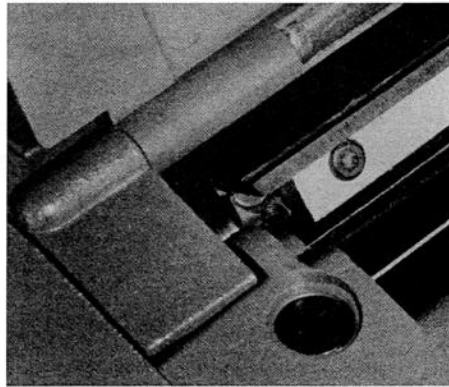

Figure 2. The ends of each planer knife should be flush with the sides of the cutterhead.
3. Check the side-to-side knife positions. The ends of the knives should be flush with the sides of the cutterhead. (See Figure 2.) Place